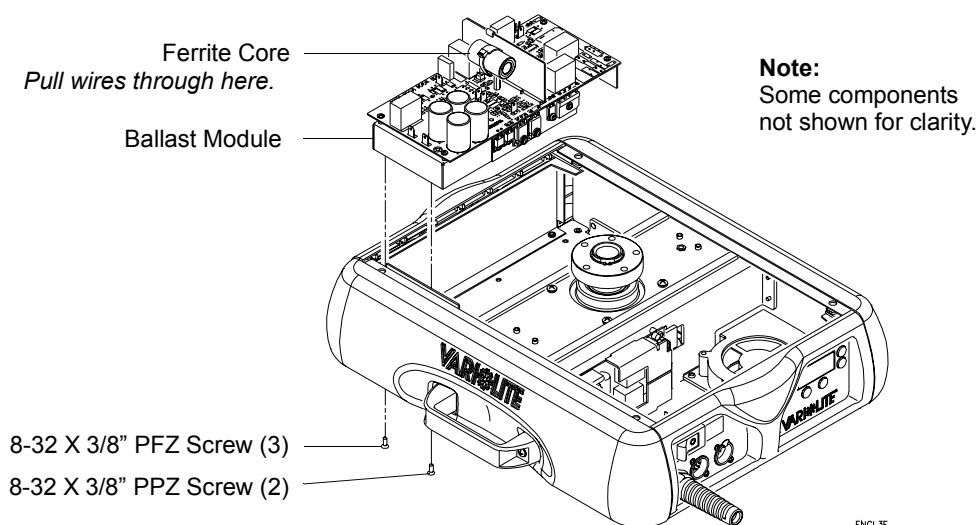

Figure 2-26: Ballast Module Assembly Replacement
Step 7. Pull wires through ferrite core (Figure 2-26).